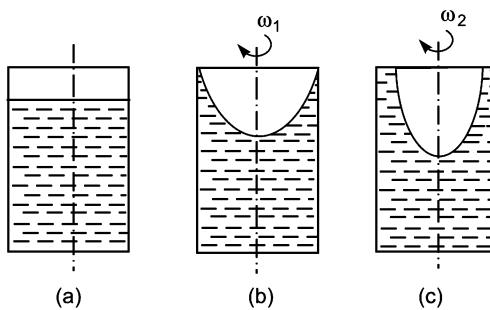

Fig. 5.20
5.10.5 Closed Cylindrical Vessels. If a cylindrical vessel is closed at the top, which contains some liquid, the shape of paraboloid formed due to rotation of the vessel will be as shown in Fig. 5.20 for different speed of rotations.
Fig. 5.20 (a) shows the initial stage of the cylinder, when it is not rotated. Fig. 5.20 (b) shows the shape of the paraboloid formed when the speed of rotation is ω_1 . If the speed is increased further say ω_2 , the shape of paraboloid formed will be as shown in Fig. 5.20 (c). In this case the radius of the parabola at the top of the vessel is unknown. Also the height of the paraboloid formed corresponding to angular speed ω_2 is unknown. Thus to solve the two unknowns, we should have two equations. One equation is